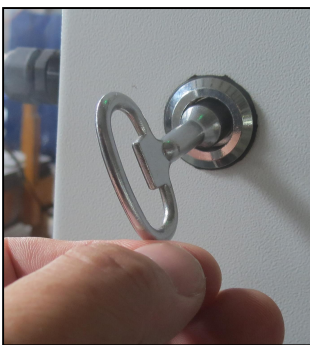
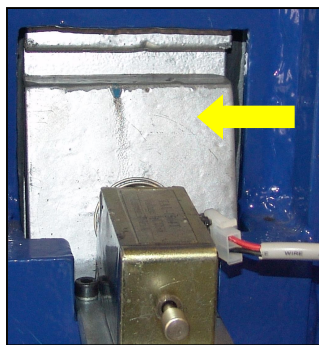

Fig. 8.2
Fig. 8.3
4. Using the key provided to open the upper cabinet door (Fig. 8.2), locate the safety latch mechanism to ensure the safety latch is not in the locked position. (Fig 8.3).